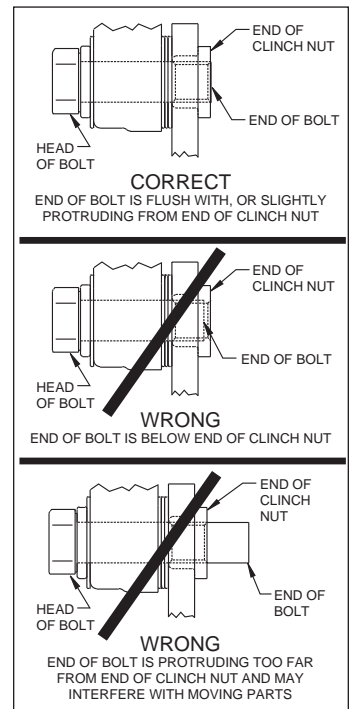

Figure 5. Clinch Nut Engagement Diagram
Assembly Instructions (numbers in parenthesis refer to the parts list, and Figure 2 on the preceding pages): **CAUTION:** All mounting bolts must fully engage clinch nuts. Be sure to check that all bolts are either flush or protruding through flanged side of clinch nut after shimming, Figure 5.
•Screw dust cap (17) into hub (7), Photo 8. Friction created by the o-ring (16) on the dust cap keeps it from unscrewing. **NOTE:** The O.D. of the existing OEM spindle washer may be larger than the I.D. of the dust cap not allowing it to seat against the hub face. Therefore, use the spindle washer (15) supplied with the kit instead of the OEM washer.
•**NOTE:** Please reference the caution statement at the beginning of the assembly instructions. This kit contains distinct right and left hand calipers that must be mounted in a specific direction, as described below. Mount the caliper (18) onto the caliper mounting bracket (1) using bolts (20) and washers (19), as shown in Figure 2. Initially place two .035" thick shims (21) on each bolt between the caliper and the bracket, Photo 9. Ensure that the caliper is mounted so the largest pistons are at the rotor exit end of the caliper, in relation to the direction of rotor rotation. Temporarily tighten the mounting bolts and view the rotor (11) through the top opening of the caliper. The rotor should be centered in the caliper, Photo 10. If not, adjust by adding or subtracting shims between the bracket and the caliper. Always use the same amount of shims on each of the two mounting bolts. **NOTE:** The end of each bolt must be flush with or slightly protruding from the head of the clinch nut, as shown in Figure 5. If necessary place spare shims between washer (19) and caliper mounting ear to achieve the proper clinch nut engagement. Once the caliper alignment and clinch nut engagement are correct, remove the caliper bolts and caliper.